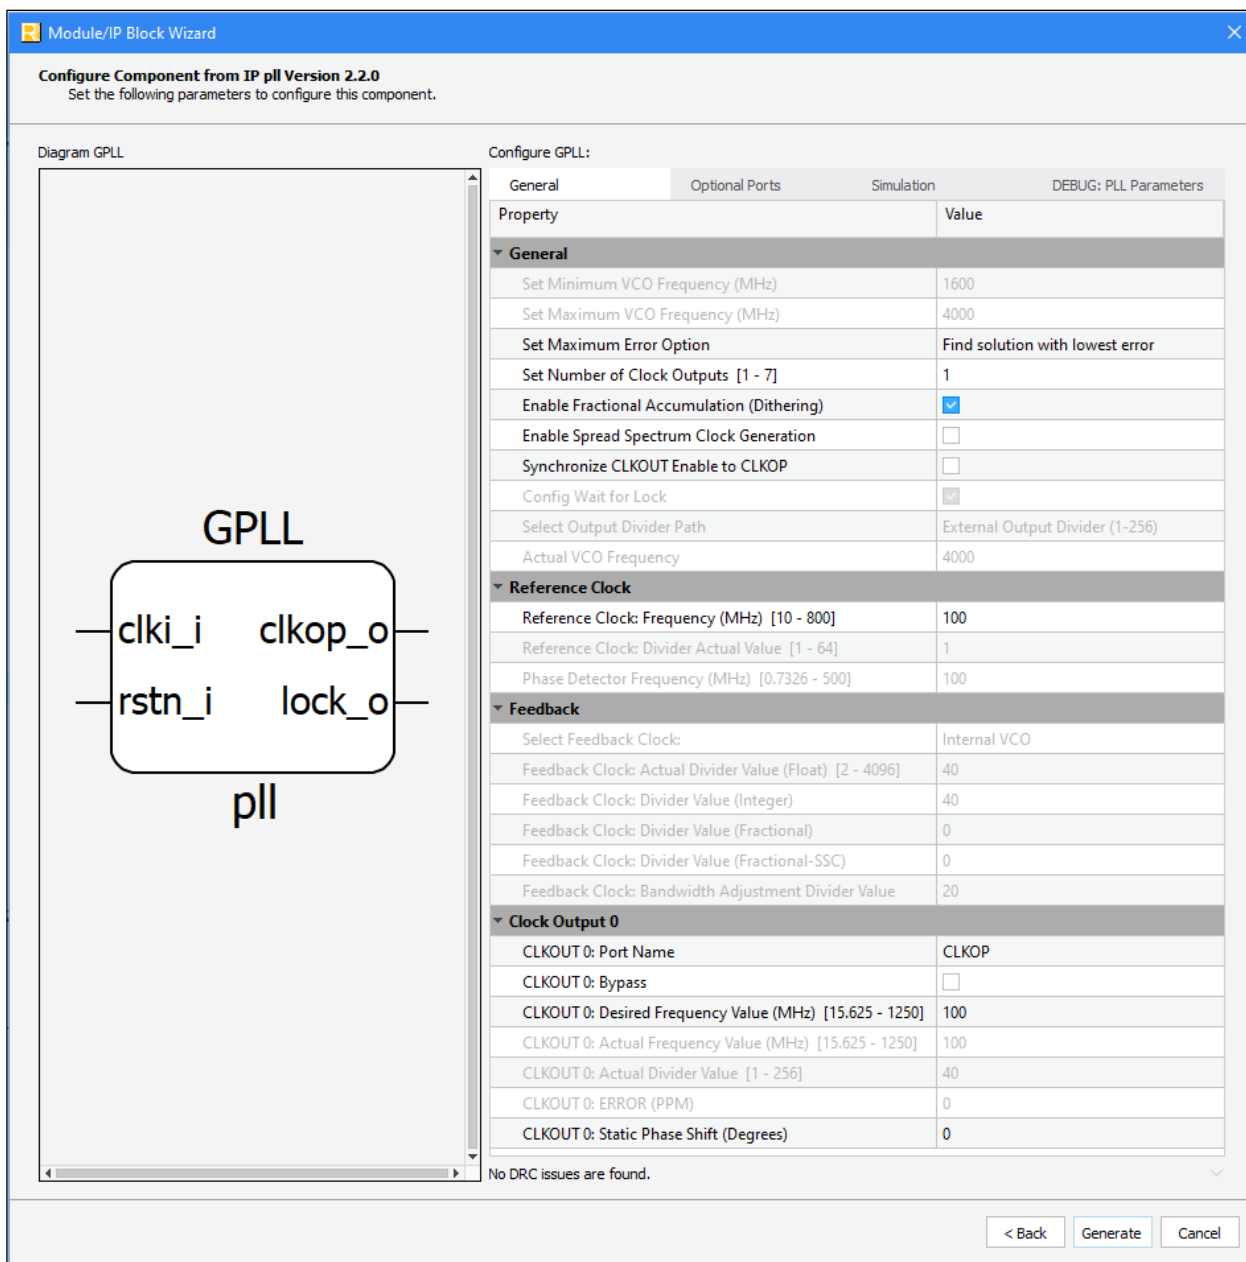

Figure 3.2. Configure User Interface of PLL Module
3. In the module's dialog box of the **Module/IP Block Wizard** window, customize the selected PLL Module using drop-down menus and checkboxes. As a sample configuration, see Figure 3.2. For configuration options, see the Attribute Summary section.
IP Generation and Evaluation	Updated Figure 3.2. Configure User Interface of PLL Module.